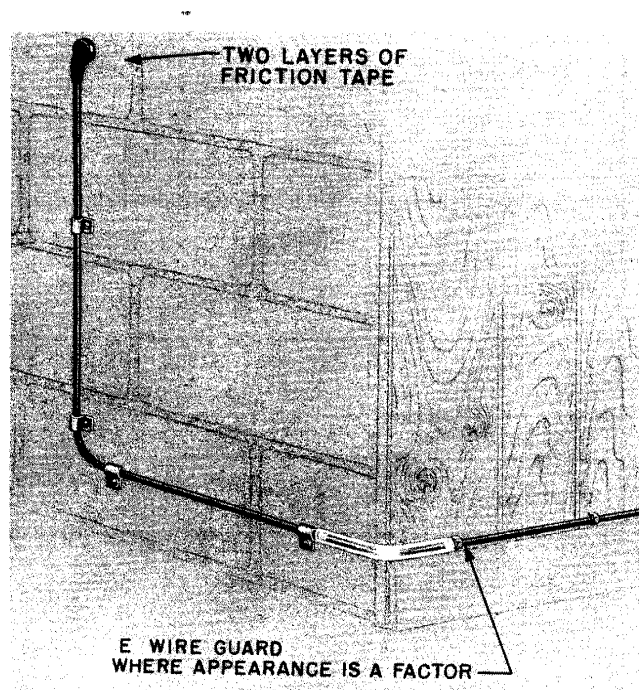

Fig. 4 — Use of Tape or E Wire Guard
- P or S wire guard, plastic tube, or two layers of friction tape shall be used in all cases where telephone wiring is subject to abrasion or mechanical damage. E wire guard (plastic tubing) may be used in place of friction tape or P wire guard on station wiring within buildings where improved appearance is desired. (See Fig. 4.)